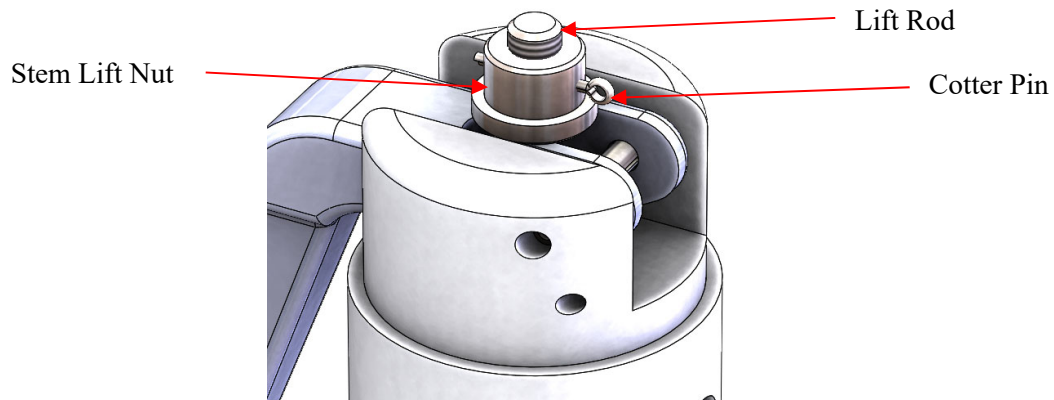

Figure 37: Upper Portion of Lift Lever Cap
2. Bend straight and pull out the cotter pin. See Figure 37.
3. Unscrew and remove the stem lift nut. See Figure 37.